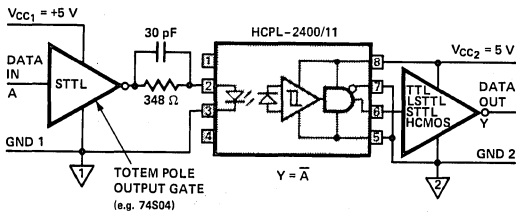

Figure 13. Recommended 20 Mbd HCPL-2400/11 Interface Circuit
- This specification simulates the worst case operating conditions of the HCPL-2400/11 over the recommended operating temperature and V_{CC} range with the suggested applications circuit of Figure 13.
A recommended application circuit for high speed operation is shown in Figure 13. Due to the fast current switching capabilities of Schottky family TTL logic (74STTL), data rates of 20 MBd are achievable from 0 to 70°C. the 74S04 totem-pole driver sources current to series-drive the input of the HCPL-2400/11 optocoupler. The 348 Ω resistor limits the LED forward current. The 30 pF speed-up capacitor assists in the turn-on and turn-off of the LED, increasing the data rate capability of the circuit. On the output side, the following logic can be directly driven by the output of the HCPL-2400/11 since a pull-up resistor is not required. If desired, a non-inverting buffer may be substituted on either the input or the output side to change the circuit function from $Y = A$ to $Y = \bar{A}$. This circuit satisfies all recommended operating conditions.